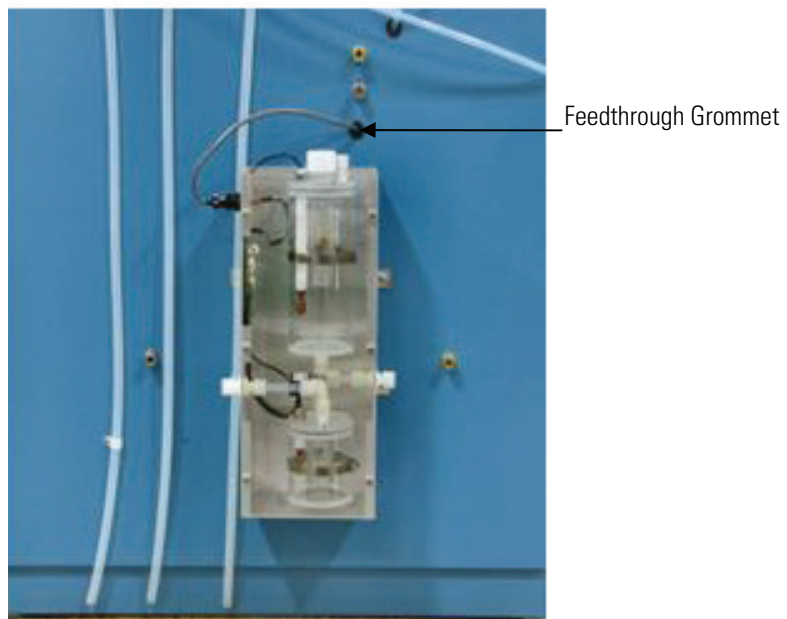

Figure 6-1. Hydrator Mounted Outside Rack
1. Mount the Hydrator assembly in the location specified. Be aware that the unit will be mounted in the upright position, as shown in **Figure 6-1**. Use appropriate stainless steel hardware, such as 1/4 -20 to mount the assembly to the rack.
front. Run this cable to the rear of the 80*i*, utilizing available feedthrough grommets (**Figure 6-1**).